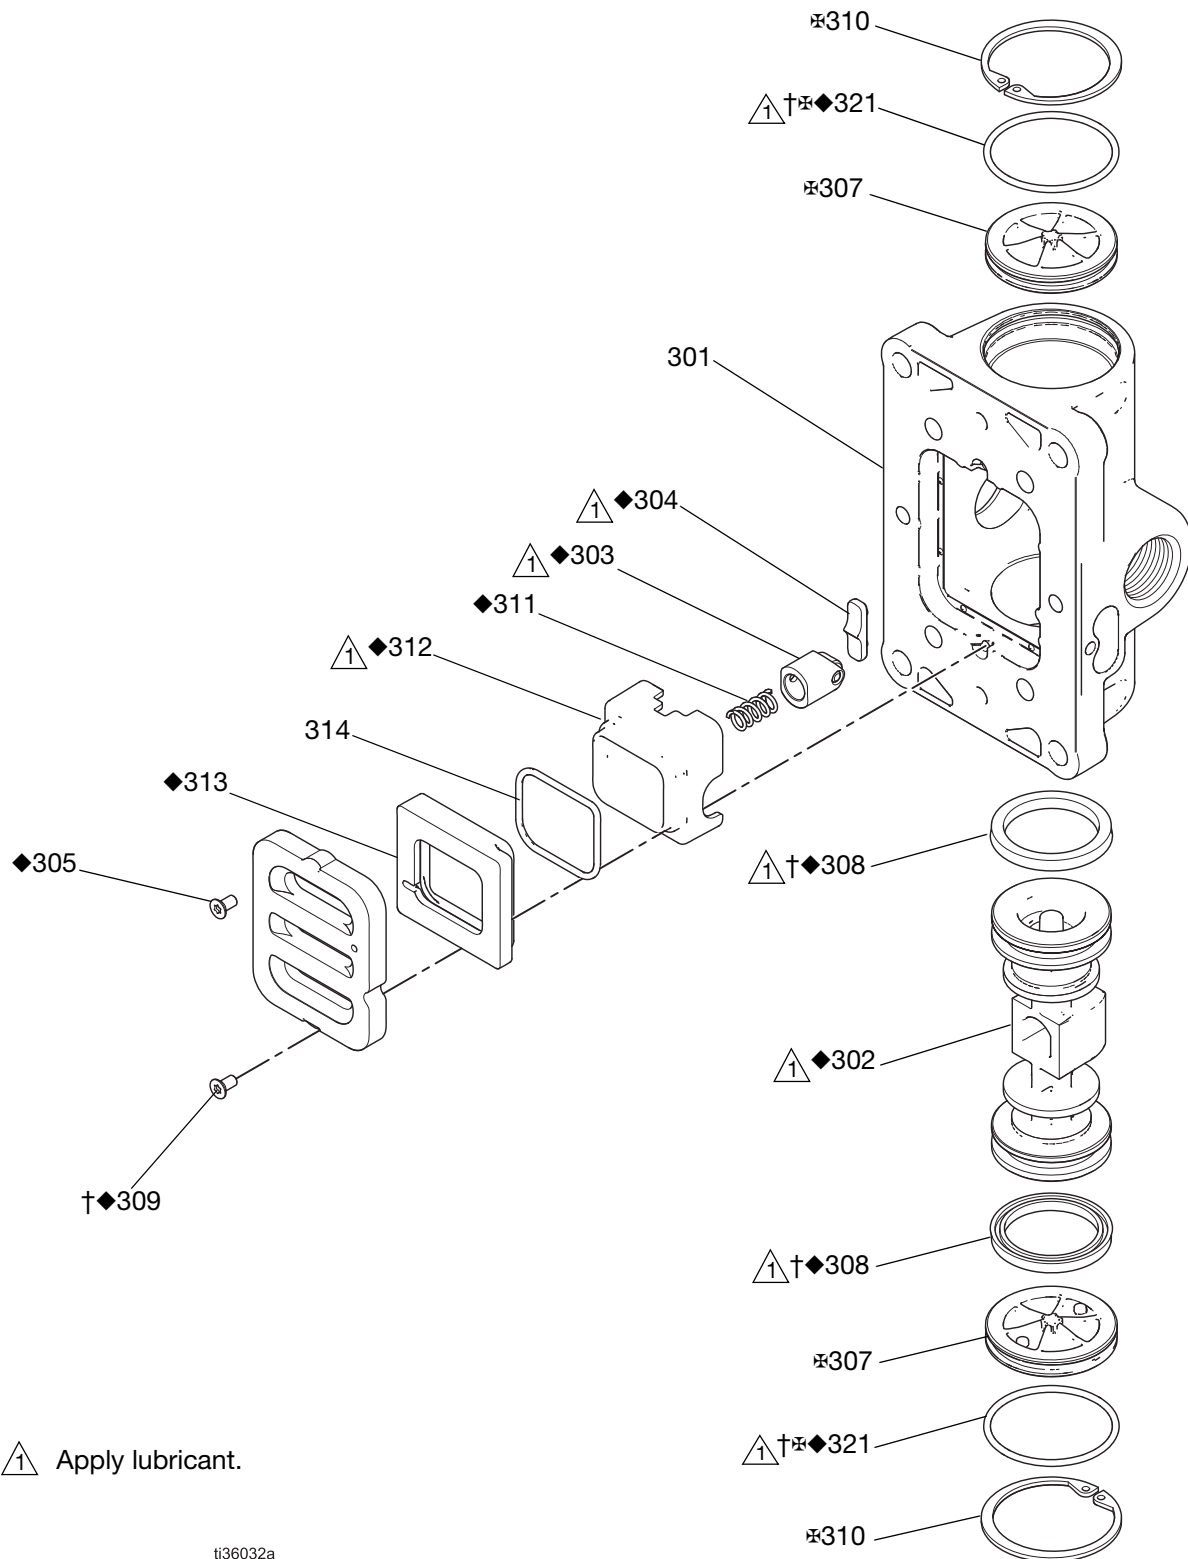
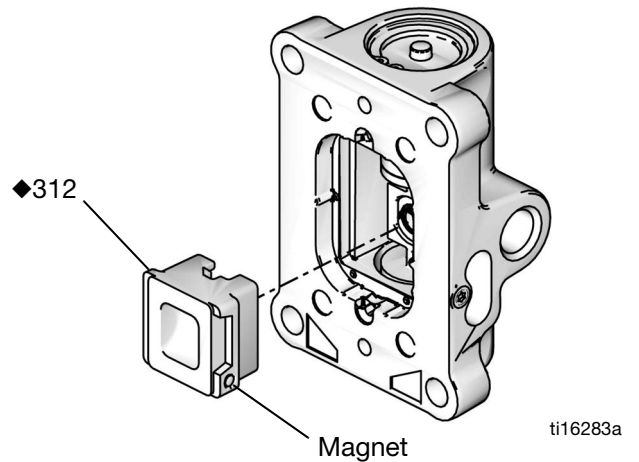

FIG. 12
FIG. 14
Use FIG. 12 and the following table to identify the kits needed for replacements:
2. See FIG. 12. Use a 2 mm or 5/64 in. hex key to remove two screws (309†◆). Remove the valve plate (305◆), cup (312◆), and spring (311◆).
3. See FIG. 12. Remove the snap ring (310) from each end. Use the piston to push the end caps (307) out of the ends. Remove end cap o-rings (306†+◆).
1. See FIG. 12. Lubricate detent cam (304♦) and install into housing.
3. See FIG. 12. Lubricate both ends of the piston (302♦) and install it in the housing.
5. Lubricate new o-rings (306†♦) and install on the end caps (307). Install the end caps into the housing.
7. Install the spring (311♦). Lubricate and install the pneumatic valve cup (312♦), see FIG. 14. Align the small round magnet with the pneumatic inlet.